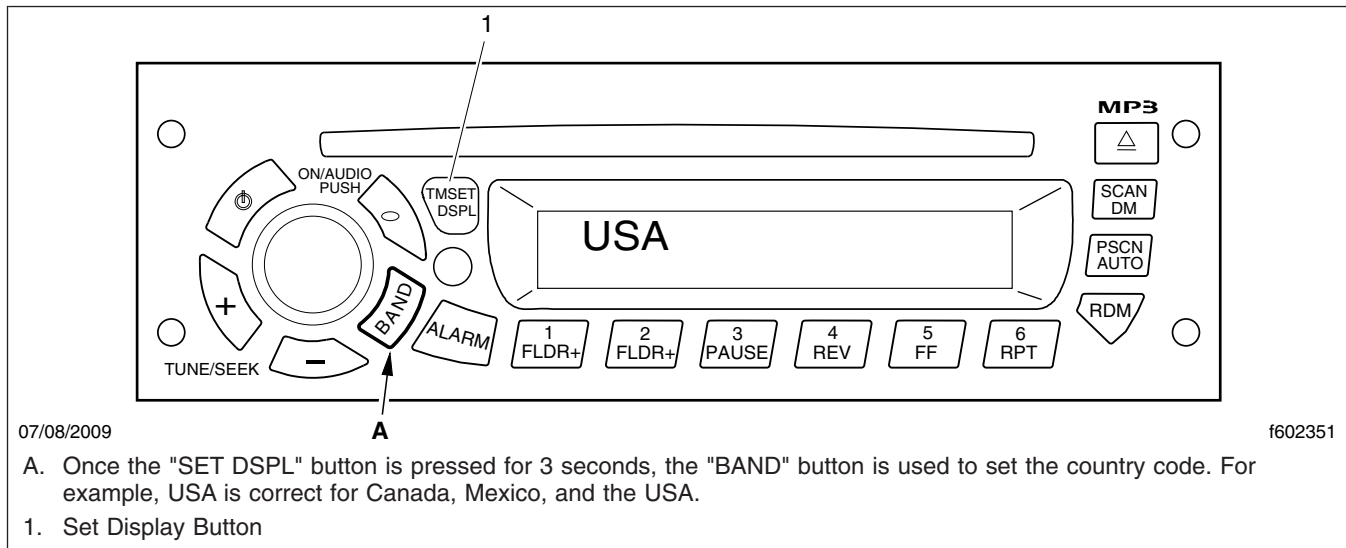

Fig. 2, Setting the Country Code
4. Press the "BAND" button to select the country that is correct for the region where the truck is operating. See Fig. 2.